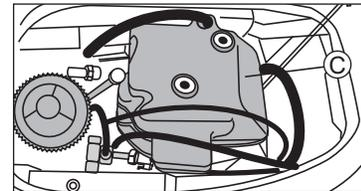

Fig. 33
2. Remove cover "C" (Fig. 33).